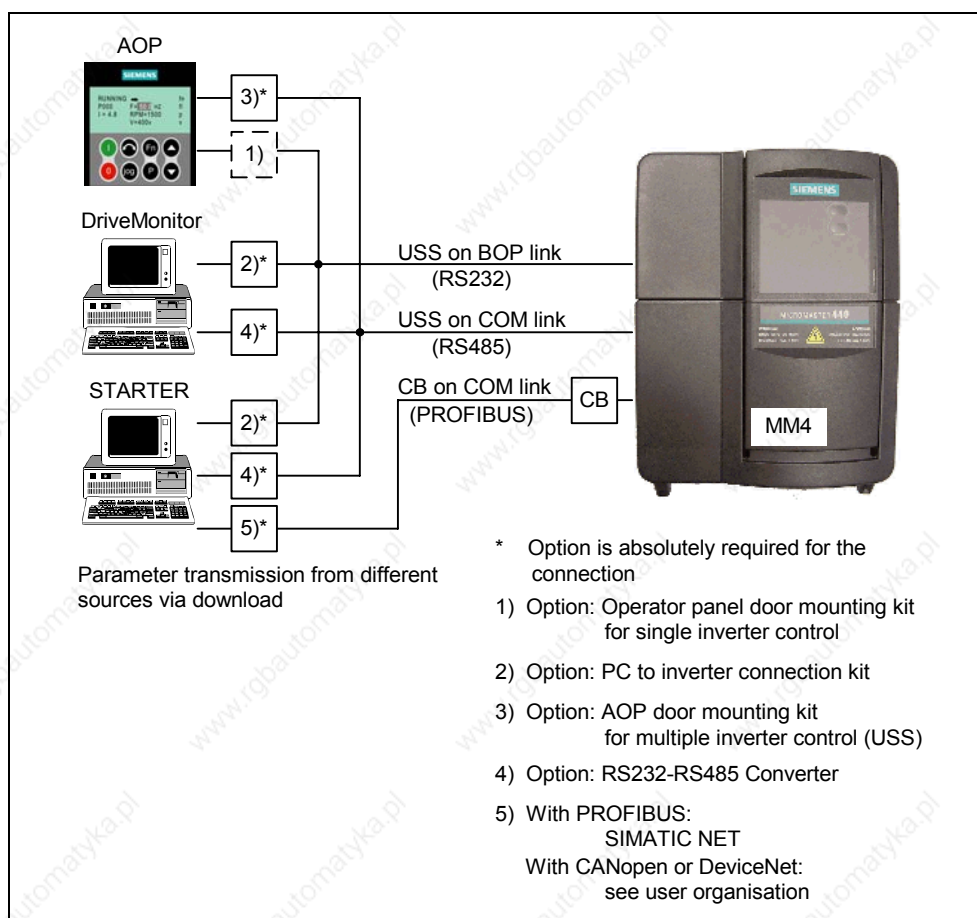

Fig. 3-28 Upread / download using AOP and PC Tools
- Operator panel AOP (please refer to Fig. 3-28).